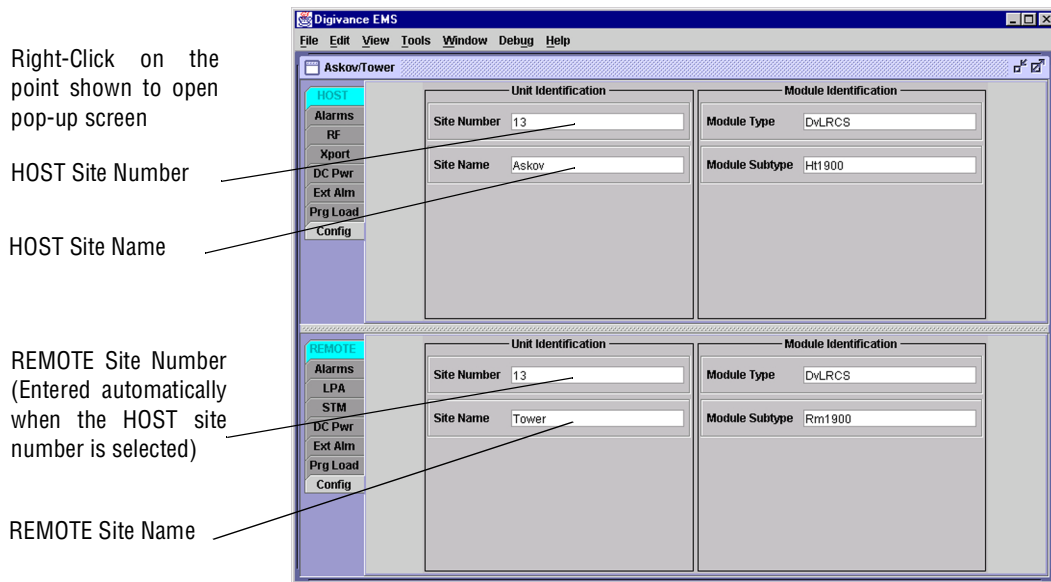
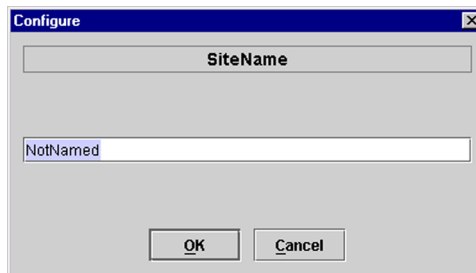

Figure 4-6. HOST and REMOTE Config Displays
Figure 4-7. HOST Site Name Pop-Up Screen
1. Click on the **HOST Config** tab and on the **REMOTE Config** tab. The **HOST Config** display and the **REMOTE Config** display will open within the DEMS main window as shown in Figure 4-6.
2. Right-click on the **HOST Site Name** field (see Figure 4-6). The **Site Name** pop-up screen will open as shown in Figure 4-7. Enter a unique name for the HOST. The name may be up to 32 characters long and must not contain any spaces. The name may include numbers, punctuation, and upper or lower case letters and must always begin with a letter. Click on **OK** to close the screen and make the changes take effect.
3. Right-click on the **HOST Site Number** (see Figure 4-6). The **Site Number** pop-up screen will open. Enter any number between 1 and 24 and then click on OK to close the screen and make the changes take effect.
4. Check the **REMOTE Site Number** field (see Figure 4-6). The **REMOTE Site Number** does not have to be entered. When the **HOST Site Number** is entered, the system will automatically enter the same number for the **REMOTE Site Number**.
5. Right-click on the **REMOTE Site Name** field (see Figure 4-6). The **Site Name** pop-up screen will open. Enter a unique name for the **REMOTE**. The name may be up to 32 characters long and must not contain any spaces. The name may include numbers, punctuation, and upper or lower case letters and must always begin with a letter. Click on OK to close the screen and make the changes take effect.